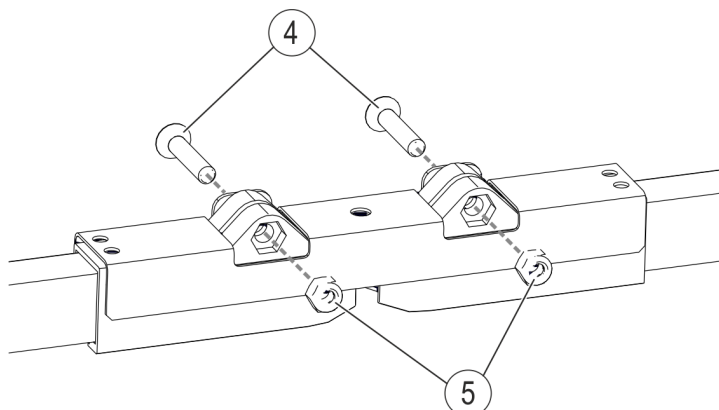

Fig. 102: Mount the plate for the air gap insulation section
- Tighten plate for air gap insulation section (Pos. 2) using countersunk screws DIN 7991 M6x30-A2 (Pos. 4) with an open-end wrench SW 10 and mount the locking nuts DIN 985 M6-A4 (Pos. 5) on the end caps (see Fig. 102).